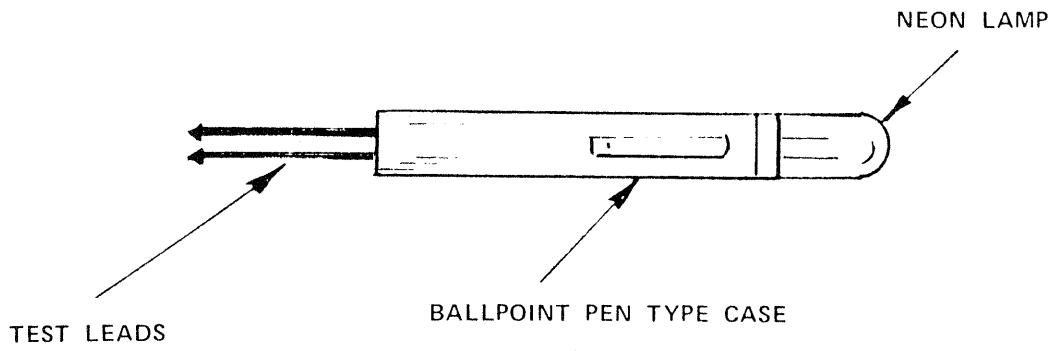

Figure A-1
1. AC TEST LAMP (Figure A-1) Lights when connected to a voltage source more than 90 volts DC. Use it to test the presence or absence of the high voltage (180 volts DC) and line voltage (110 volts AC).